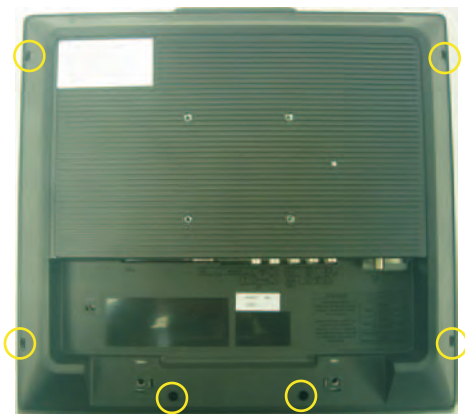

Fig.3
Step 2. Remove the Back cover and Main shield assy as Fig.3~5.
- a. Remove the 6 screws on the bottom side as Fig.3.